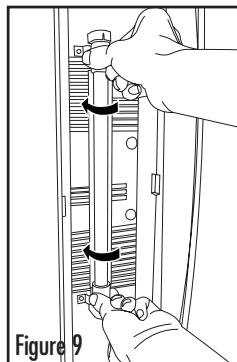

Figure 9
4. Grab both ceramic ends of the UV bulb. Turn it 90° in either direction and gently pull to remove (see Figure 9).